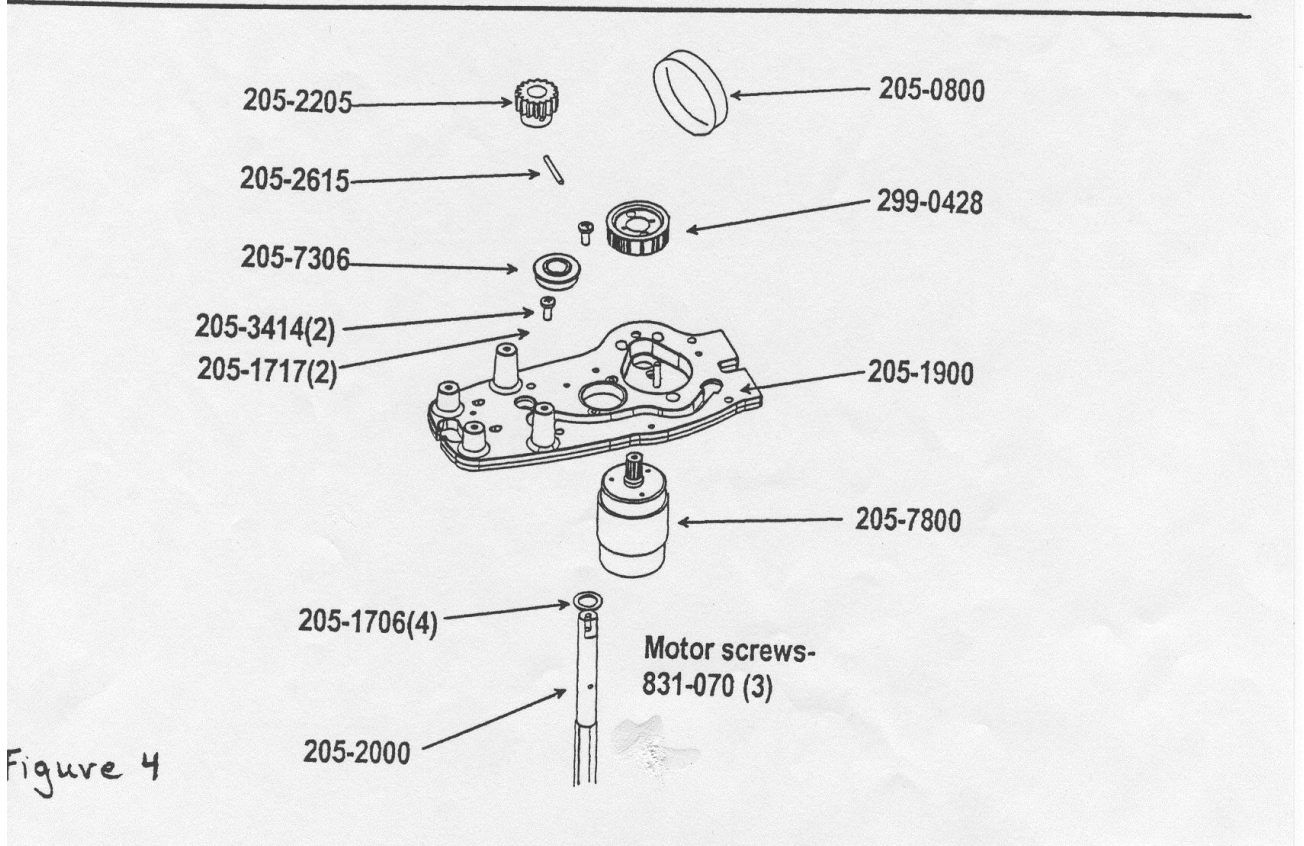

Figure 4
- A.** If it was determined in **Case III Step 2A** that the drive lock pin (p/n 2052615) (see **figure 4, page 8**) was sheared, the broken pin can be replaced at this point. Use a 1/8" diameter punch to remove any broken pieces of the pin left in the steering gear/steering shaft. Install a new pin leaving approximately 1/4" to 5/16" protruding from the pinion gear on the same side as the "D" flat on the steering shaft. Reassemble the unit in reverse order of disassembly to complete the repair.